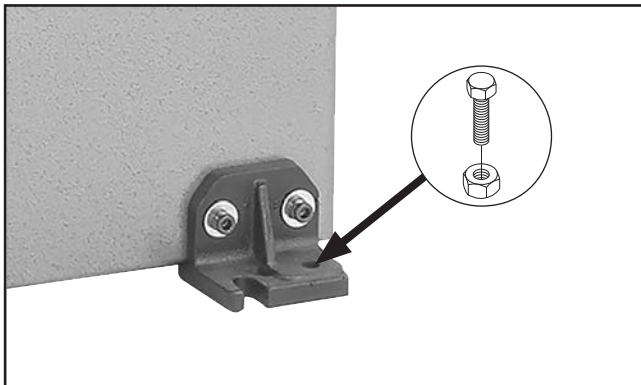

Figure 14. Location of corner bracket threaded hole.
1. Thread (4) M12-1.75 hex nuts all the way onto (4) M12-1.75 x 50 hex bolts.
2. Thread each hex bolt into corner bracket of machine base (see **Figure 14**), then adjust hex bolts to level machine.